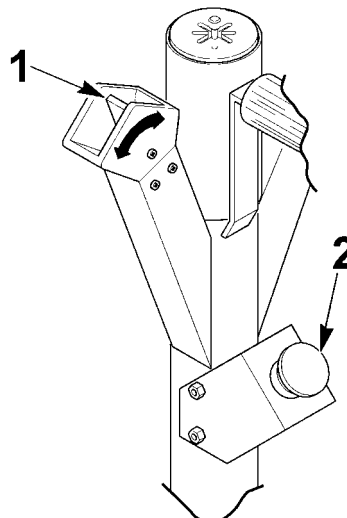

Fig.15
9. To open and close the chuck, operate the appropriate control (#1 fig.15).
10. Press the emergency STOP button (#2 fig.15): This renders all controls inoperative.